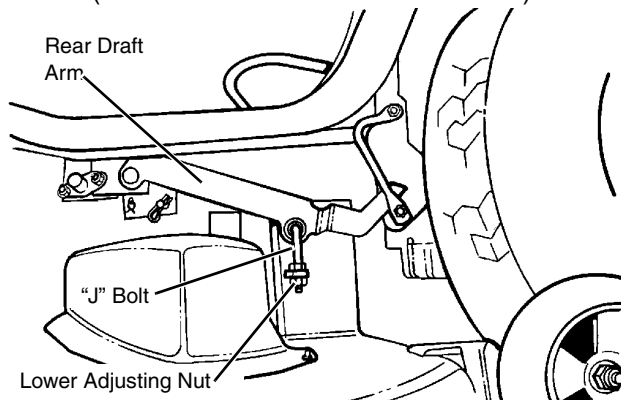

FIG. 31
- Using a 15 mm wrench, loosen top clamping nut on left hand side “J” bolt facing inside of mower approximately 1 turn. (See FIG. 31)